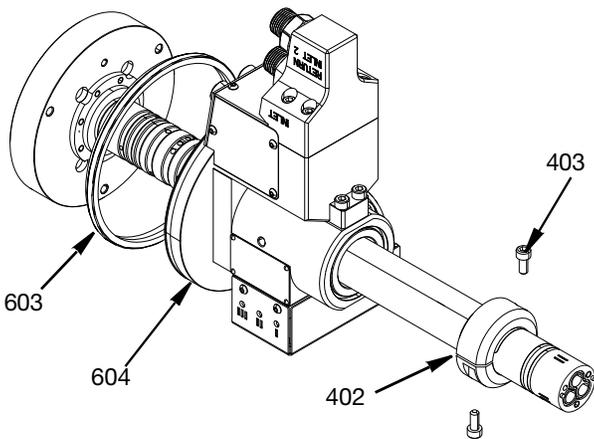

FIG. 28
7. Place seal ring (603) into the groove on outside of the bearing housing (604). Slide the completed unit onto the central body (101) and make sure the face of the bearing housing is tight against the face of the central body. Torque the four M5 screws (601) to 57 (6.5 N•m) in lbs. The screw heads can be accessed through the four holes in the center body (101). With a soft faced mallet, tap the face of the center body (101) to ensure it is fully seated against the upper bearing (602).
8. Slide lock ring (401) onto the center body and tighten the two M5 screws (403). Apply threadlocker to screws, and torque to 80 in-lbs (9.0 N•m). See FIG. 28.